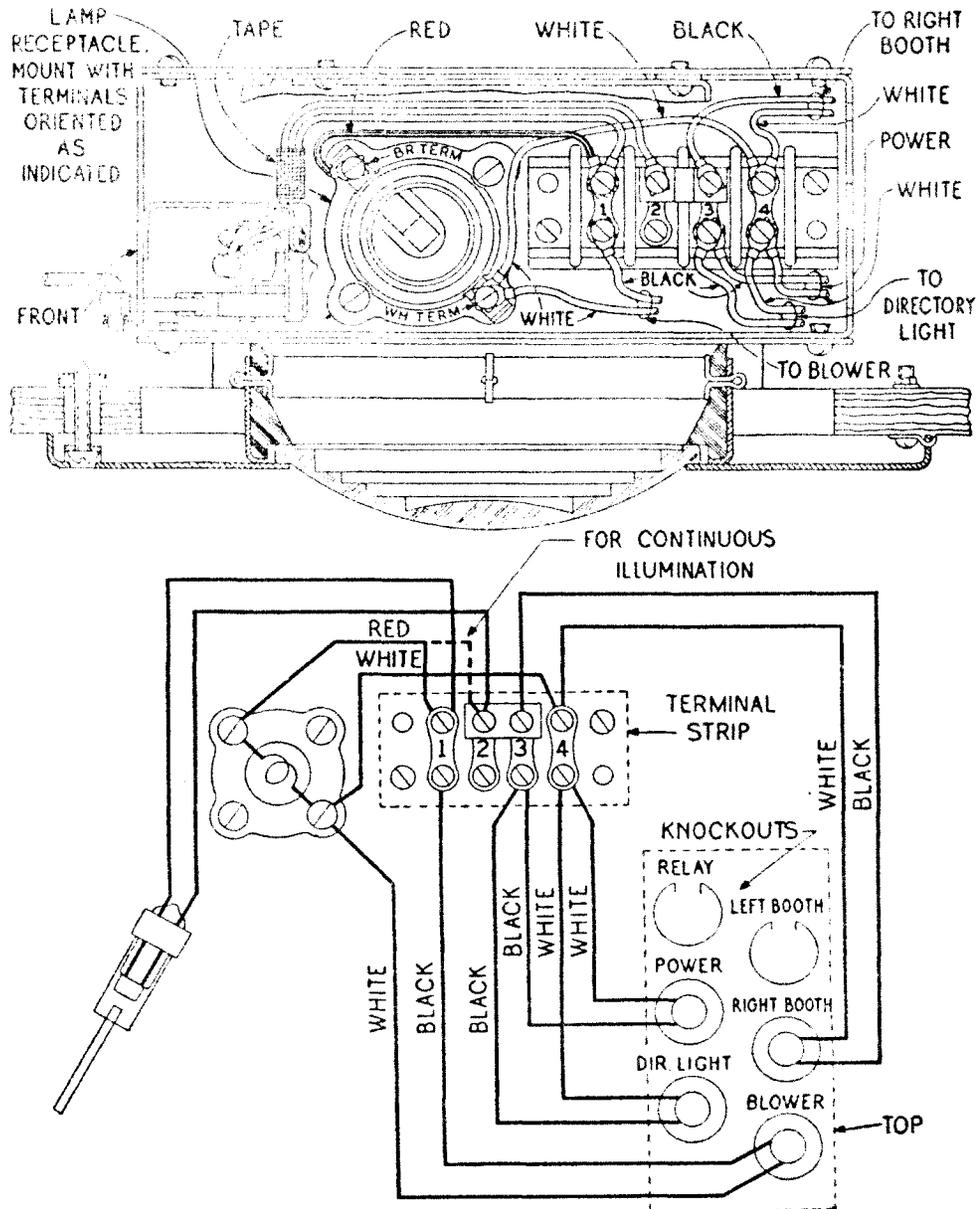

Fig. 9—4A Light Fixture for Four Cables
7.02 **At the 4-type light fixture,** connections are made to the terminals as shown in Fig. 9. Each cable shown is to be provided and connected only when required. Spade terminals should be inserted squarely and to full depth of slot in order to provide maximum separation between terminals. When connected as shown in Fig. 9, the lamp operation is controlled by booth-door movement. To obtain continuous illumination in booth, connect red-strap lead from lamp socket to terminal 2 instead of terminal 1 on light-fixture terminal strip.
- (2) Remove the intake tube of the blower assembly and lower it through the hole provided in the booth ceiling, resting the flange on the top side of the ceiling.
- (3) Disconnect the 8-inch assembly cable from the 40-inch extension cable by turning the twist-lock connector counterclockwise to release the locking plug from its socket.
- (4) Form the blower extension cable in the ceiling of the booth so that it rests in the notch of the metal-ceiling partition and drop the socket end of the twist-lock connector through the small opening in the corner of the booth ceiling. Connect the other end of the cable to the light fixture as shown in Fig. 9.
- (5) Remove the screws securing the cover at the bottom of the blower with a KS-8187 wrench and remove the cover and blower motor from the blower housing.
- (6) Hold the remainder of the assembly against the booth ceiling with the mounting studs extending through the holes provided in the flange and through the top side of the ceiling.
- (7) Reach one arm through this part of the assembly and secure the lockwashers and wing nuts in place.
- (8) Rest the remainder of the blower assembly on top of the coin collector to bring the plug end of the assembly cable within reach of the twist-lock connector hanging from the ceiling. Insert the plug into the twist-lock connector and **lock** together by turning clockwise.
- (9) Work the slack of the blower cable back up into the channel behind the blower housing while raising the assembly into place. Make certain that the excess cable does not interfere with the blower operation by **pulling** all of the slack into the space between the ceiling and the roof of the booth.
- (10) Reassemble the motor and cover to the blower framework.
- (1) Proceed as covered in 11.12 (1).
- (2) Remove the grille at the top of the front of the booth and pass the intake tube of the blower through the opening and drop into hole in ceiling provided for it.
- (3) Proceed as covered in 11.12 (3).
(4) Reach through the ventilator opening and form the blower extension cable in the ceiling of the booth so that it rests in the notch of the metal-ceiling partition. Drop the locking plug through the small opening in the corner of the booth ceiling and pass the other end through a knockout in the light-fixture box. While holding this cable in place with one hand, place the locknut to secure the cable to the box from the underside of the light fixture with the other.
(5) Connect the cable from the underside of the light fixture in accordance with Fig. 9.
(6) Proceed as covered in 11.12 (5), (6), (7), (8), (9), and (10).